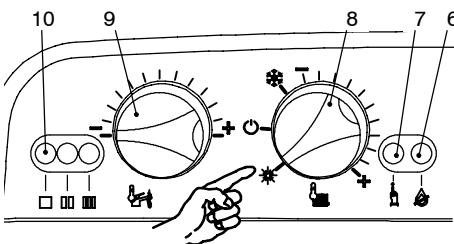

Fig. 7.8
- 5 Set the function knob 8 as illustrated in Fig. 7.8.